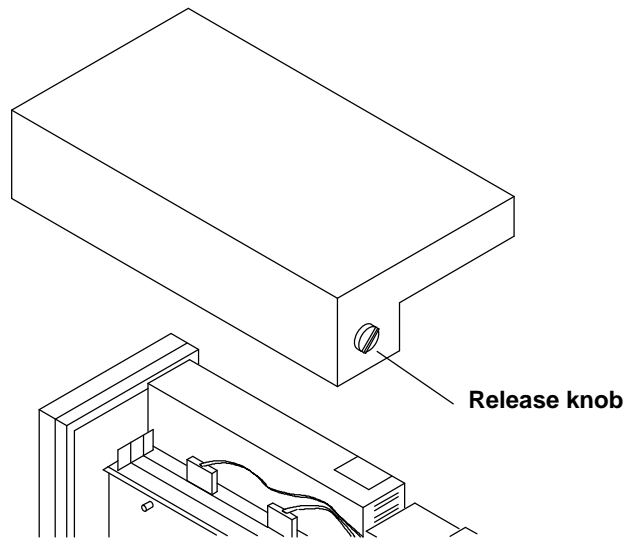

Figure 5-2. Removing the Top Cover to Access the Board in a 5-Slot Office Pedestal
- a. Locate the top cover release knob. Turn the knob counterclockwise one quarter turn until you hear a click. Refer to Figure 5-2.